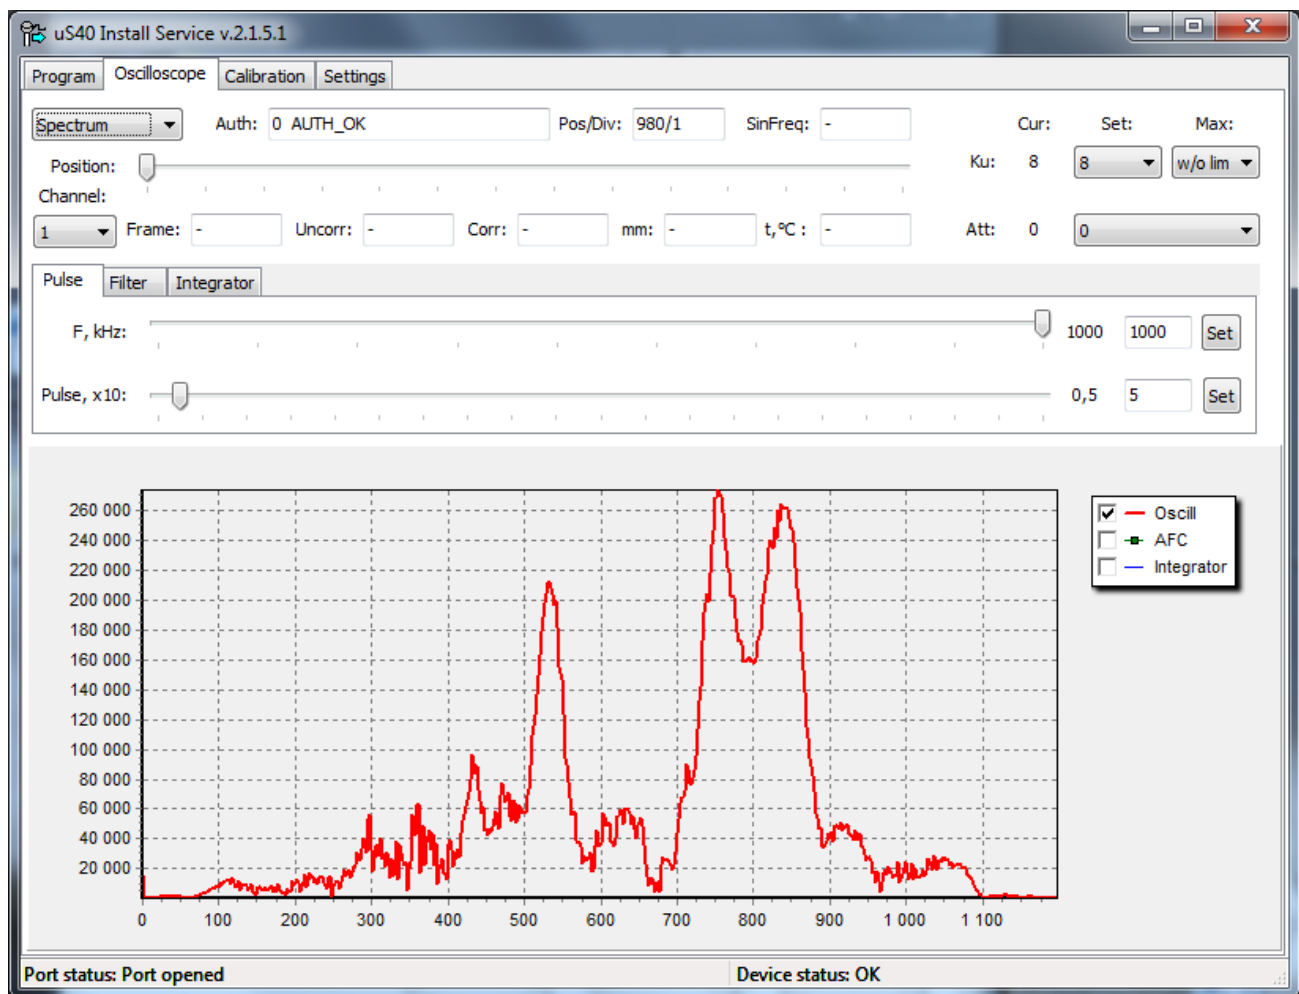
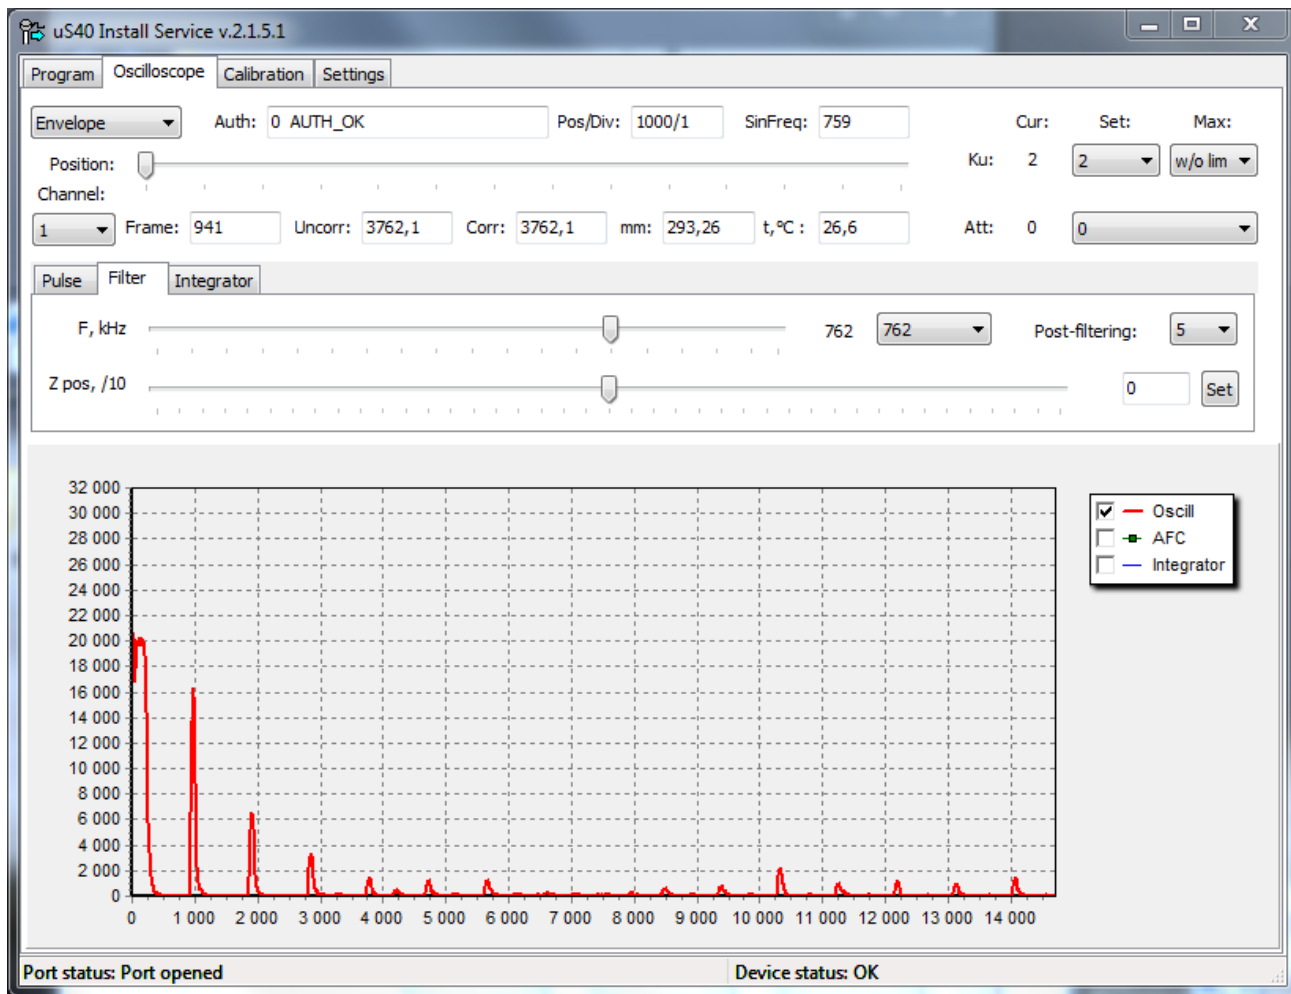

Fig. A.20
Fig. A.22
Determine the **operating frequency** of the meter. To do this, select the signal with the largest amplitude on the oscillograph record of the signal spectrum (Fig. A.20). To accurately determine the frequency, increase the spectrum.
g) Go to the “Filter” tab (Fig. A.22), in the “F, kHz” field, select the closest value to the operating frequency in the drop-down menu. In the display mode of the oscillograph record, select “Envelope” (Fig. A.20). Select “Post-filtering” parameter **5**, if the value is unstable in the “Uncorr” field, increase the post-filtering parameter.
**Note.** Fig. A.20, A.21, A.22, A.25 are made for a different (in relation to channel “0”) wall thickness. With equal thicknesses, the operating frequencies of the channels should practically coincide, and may differ within a few percent.
d) In the field "Zpos, /10" enter the obtained value of **Zpos**. Press the “Set” button (Fig. A.22).
a) In the drop-down menu “Channel:” select channel 1 (Fig. A.20). Set the gain of Ku so that the signal amplitude is in the range of 4000...10000. Wait until the value in the Uncorr field becomes stable, and write the Uncorr ”1” value from the Uncorr field for channel 1.